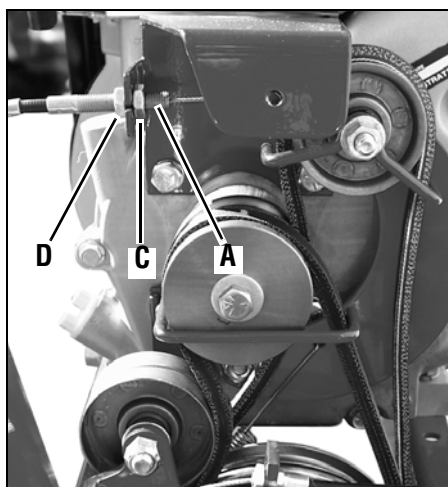

Figure 5-6: Move threaded adjuster (A) to left to increase belt tension.
5. Release the Reverse Clutch Control knob and then unthread the inner jam nut (C, Figure 5-6) one to two turns. Pull the threaded cable adjuster (A, Figure 5-6) to the left until the inner jam nut (C) touches the bracket.
6. Prevent the inner jam nut (C) from turning and tighten the outer jam nut (D) against the bracket. Prevent the outer jam nut (D) from turning and tighten the inner jam nut (C) against the bracket.